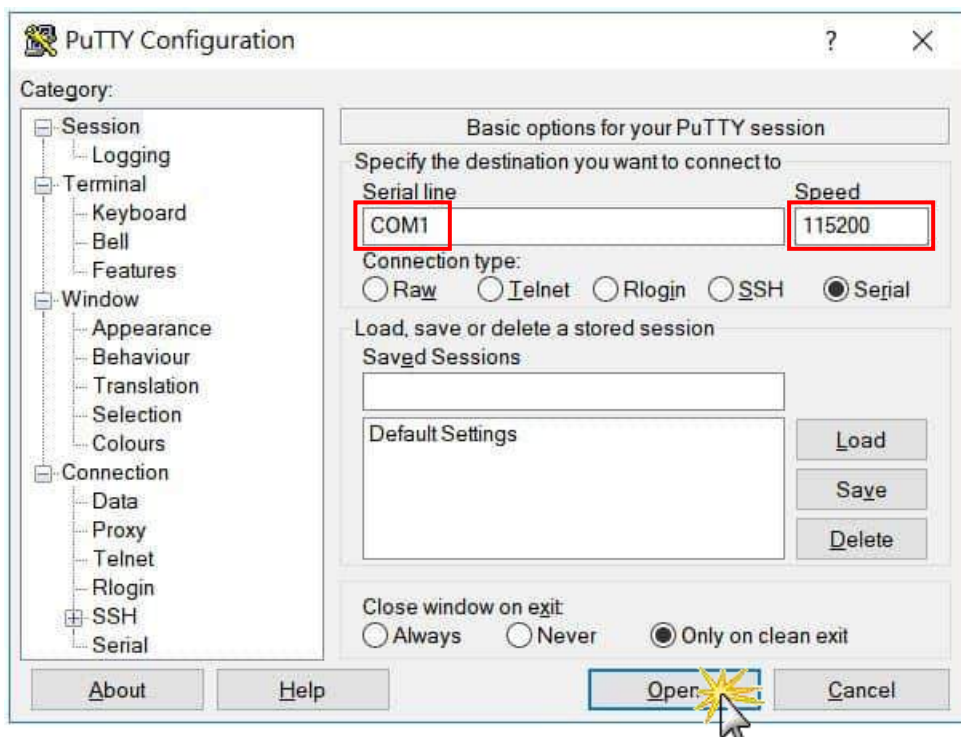

Figure 2.4-1. Console connection
Step 2: If user chose the 'Console', user can set the baud rate '115200' to connect the device. (Refer to the Figure 2.4-1)